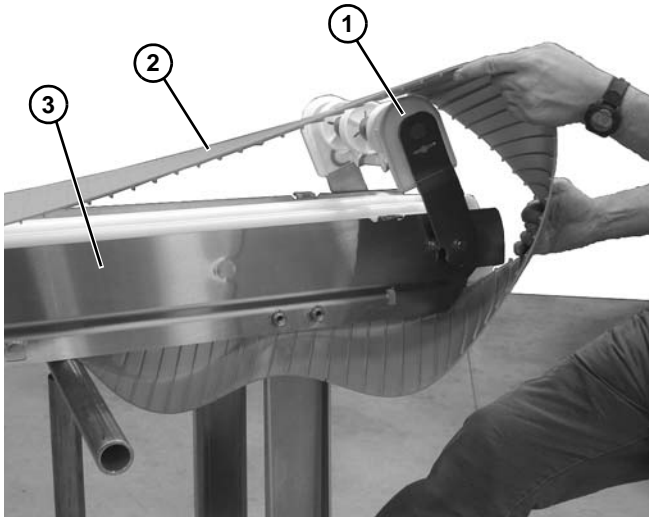

Figure 10
3. Rotate tip-up idler tail (**Figure 10, item 1**) upward as shown.
4. Position the belt (**Figure 10, item 2**) onto the conveyor (**Figure 10, item 3**).